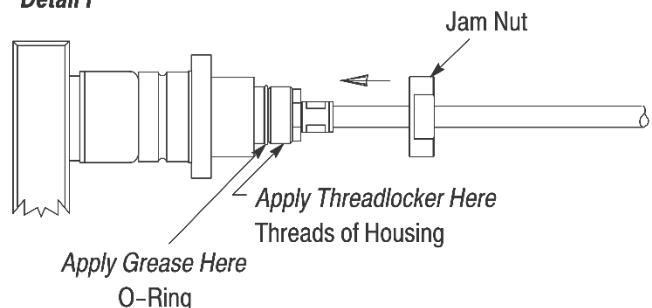

Figure 14
10. Align the internal key (small bar inside) of the housing with the keyway (slot along the outside) of the EB insert, and slide the fixture along with the EB insert assembly into the housing. See Figure 14, Detail A.
13. Slide the wave spring over the crimp sleeve and into the housing. See Figure 14, Detail B.
14. Apply 2 to 3 drops of the threadlocker to the threads at the front of the compression sleeve. See Figure 14, Detail C.
15. Slide the compression sleeve over the crimp sleeve and into the housing. Thread the compression sleeve onto the housing. See Figure 14, Detail D.
16. Secure the bench-mount assembly fixture to a stable work surface. Fit the end of the housing onto the captive housing of the bench-mount assembly fixture. See Figure 14, Detail E.
17. Apply 2 to 3 drops of threadlocker to the threads of the housing. Then, apply the grease around the O-ring on the outside of the housing. See Figure 14, Detail F.
18. Slide the jam nut onto the housing, and finger-tighten. See Figure 14, Detail F. Using the 20-mm open-end wrench, tighten the jam nut to a torque between 10 and 12 N·m.